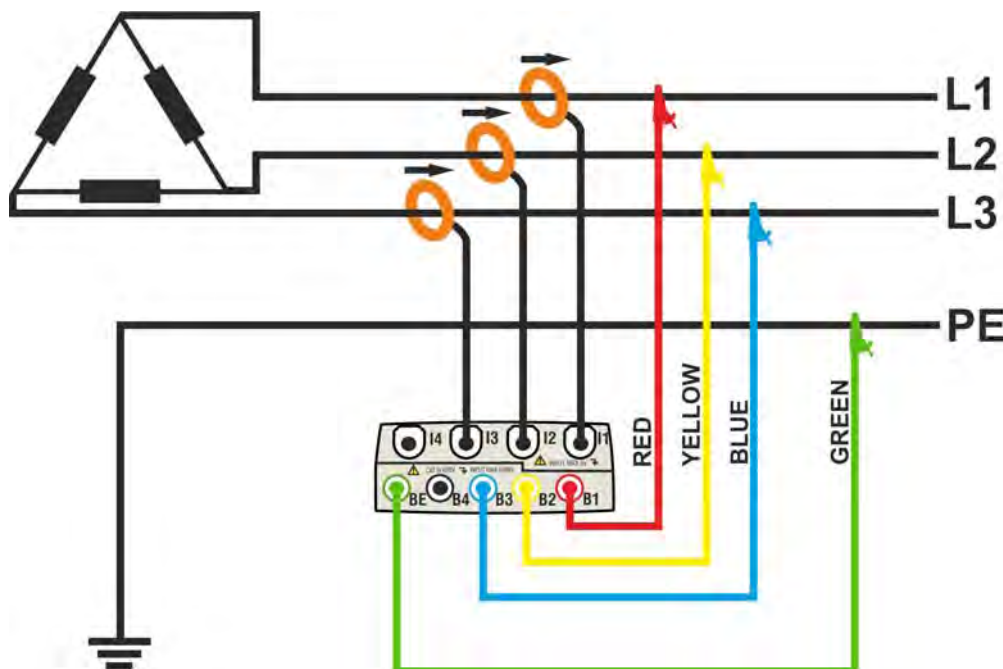

Fig. 137: Meter connection in a 3-phase ARON system – ENG\_UK type
2. Connect voltage test leads on Phases L1, L2, L3, and Ground cables considering the colours as shown in Fig. 137. **Verify the result “123” at display relative to a correct phase sequence indication** (see § 5.2.1) and perform the corrections if necessary.
3. Connect the transducer current clamps on Phase L1, L2, L3 cables as shown in Fig. 137 respecting the clamp's arrow direction indicating the current standard sequence from generator to load. **On Real Time Values' section screens (selecting a 3 wire system preliminarily) always verify the positive value of Active Power and the power factor relative to load which should be normally inductive** before starting a recording. Reverse the clamp by 180 degrees on cables in case of negative readings.